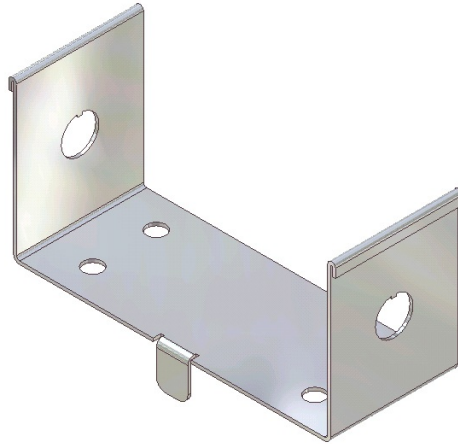
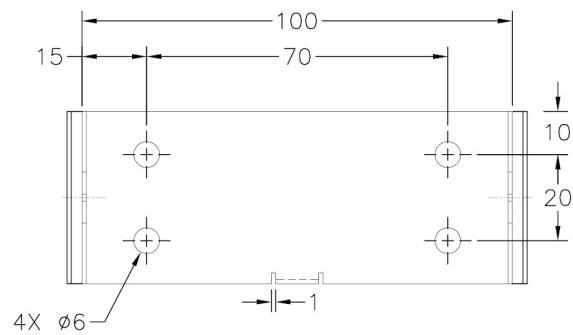
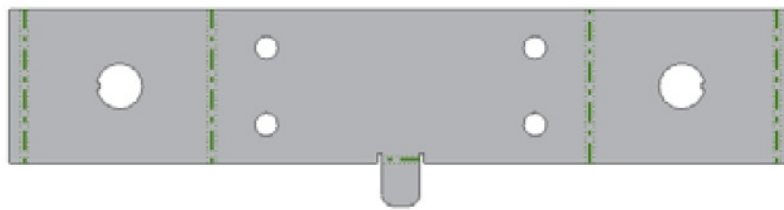

Figure 15-107a Sheet metal component
Figure 15-107b Top view of the component
Figure 15-108 Flat pattern of the sheet metal component
In this tutorial, you will create the sheet metal component shown in Figure 15-107a. Its dimensions are shown in Figures 15-107b through 15-107d. The flat pattern of the component is shown in Figure 15-108. The thickness of the sheet is 1 mm and the radius of corner bends is 3 mm. The dimensions of hems are not given. Select the default parameters as the dimensions for creating hems on the two faces.
6. Invoke the **Hole** dialog box by choosing the **Hole** tool from the **Modify** panel of the **Sheet Metal** tab and create a hole at the lower left corner of the base using the **Linear** option, refer to Figure 15-107b for dimensions.
7. Create the rectangular pattern of the hole, refer to Figure 15-107b for dimensions. Change the current view to the isometric view. The base feature of the sheet metal component after creating the hole pattern is shown in Figure 15-110.